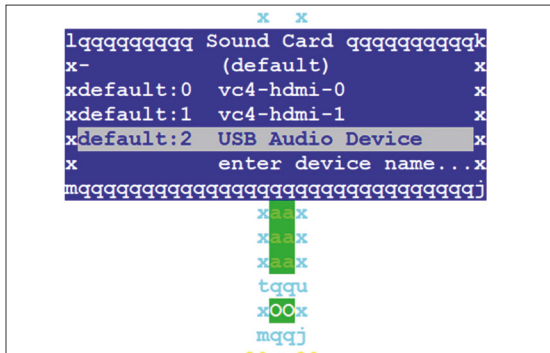

Figure 5.5: Select the USB audio device.
- Press the F6 function key and select the **USB audio device** (Figure 5.5), then press the **Enter** key